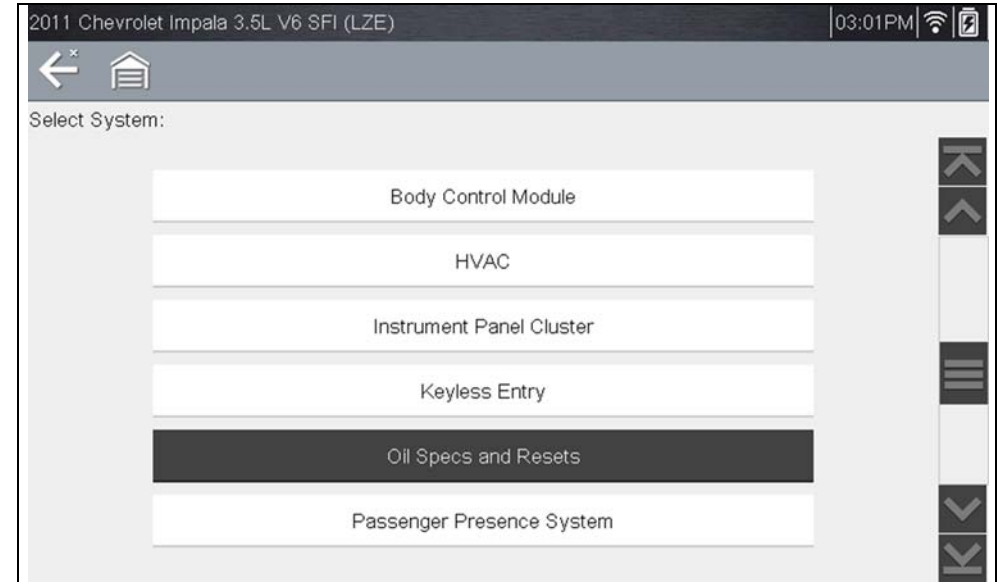

Figure 9-2 Scanner System Menu - Oil Specs and Resets Option
- **From within a current Scanner session** - select **Oil Specs and Resets** from the System menu (*Figure 9-2*), follow the screen prompts to identify the vehicle and then proceed to Step 4.